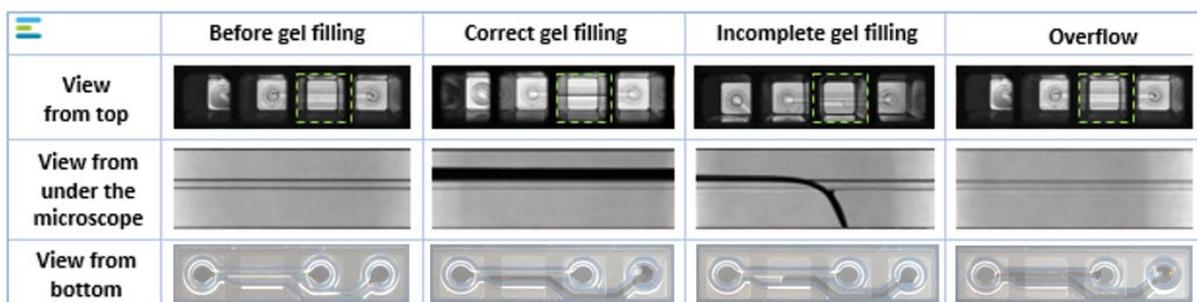

Figure 5: Overview of correct gel filling, incomplete gel filling, and overflow in the OrganoPlate® 2-lane
- f. For examples of correct gel filling in the OrganoPlate® 2-lane, see figure 5 below.